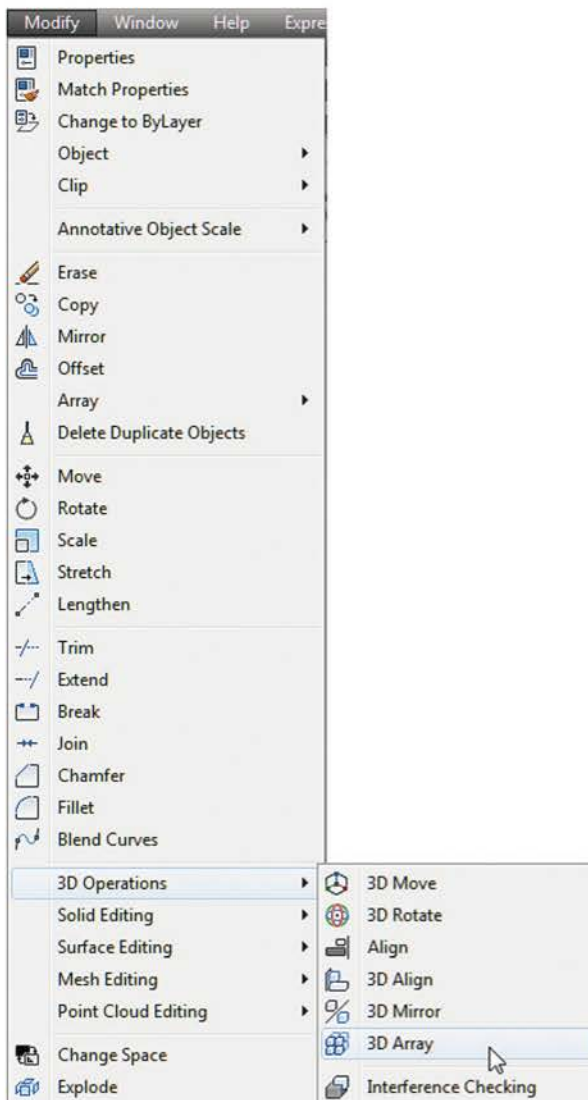

Fig. 11.11 Selecting 3D Array from the Modify drop-down menu
2. Click on the 3D Array in the **Modify** drop-down menu (Fig. 11.11). The command sequence shows: